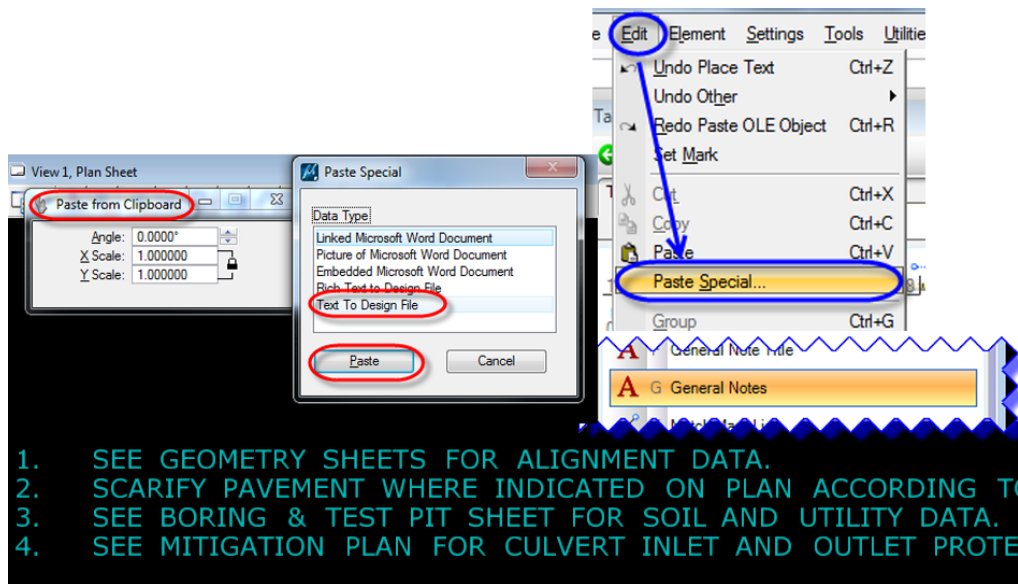

Figure 82 - Copy Microsoft Word into MicroStation
- From the **Edit Menu**, select **Paste Special**. In the Paste Special tool box select **Text To Design File**, click **Paste** (Figure 82).